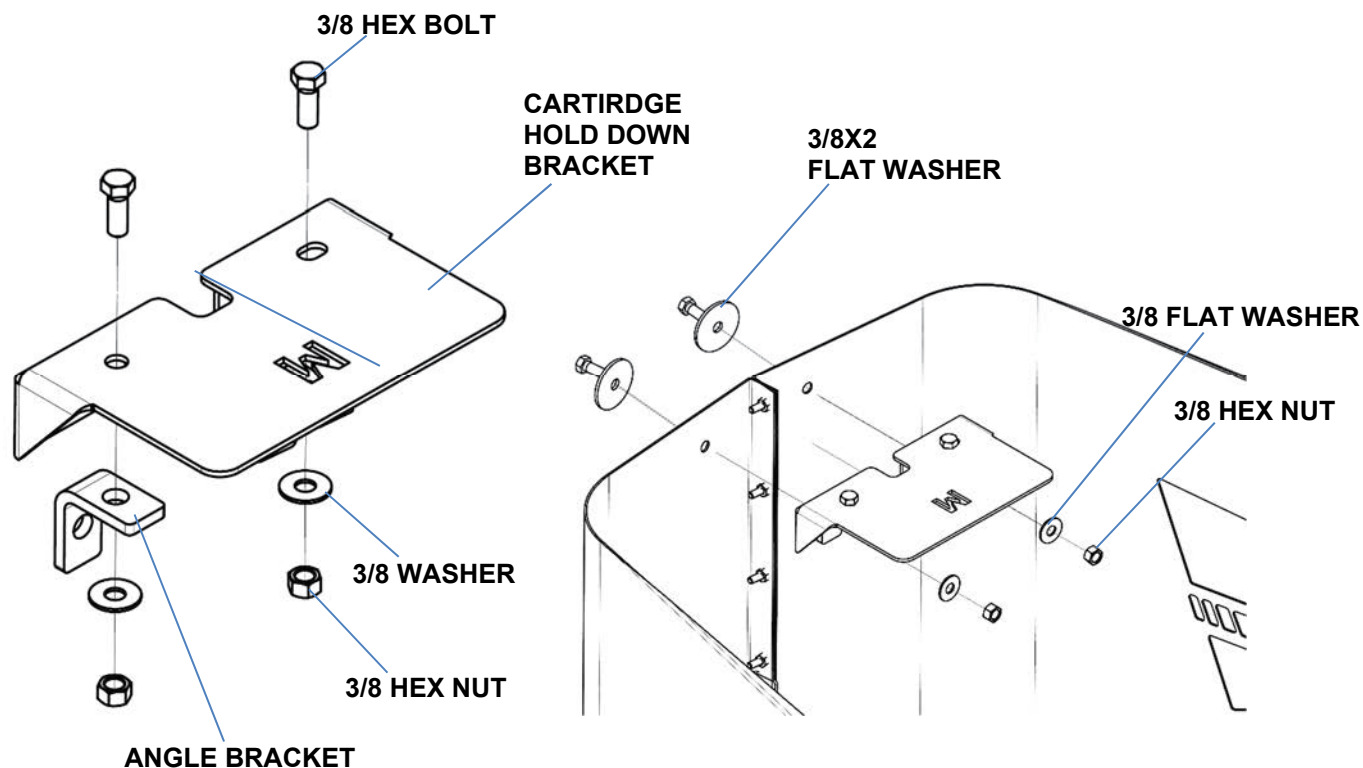

Figure 32
- C. Adjust Nose assembly height so top front Nose is 815 mm above concrete pad. Tighten all six (6) rail bolts and nuts.
- E. Assemble QuadGuard® M Cartridge Hold Down Bracket with 3/8X 1 hex bolts, washers and nuts (Figure 32).